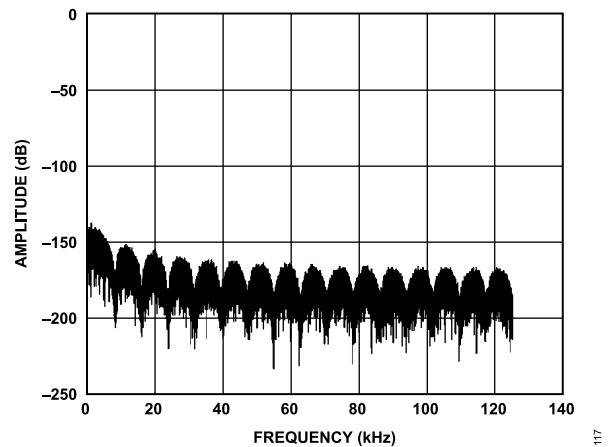

Figure 179. Example Filter Profile Upload
The following sequence programs a Sinc1 filter. The coefficients in Address 0 to Address 23 = 0. The coefficients from Address 24 to Address 55 = 131,072 ( $2^{22}/32$ ). When MCLK = 16.384MHz and ODR = 256kSPS, the filter notch appears at 8kHz and multiplies of 8kHz. This filter provides low noise and is recognizable by the distinctive filter profile shown in Figure 179.
17. Gather data. The resulting filter profile is shown in Figure 179.